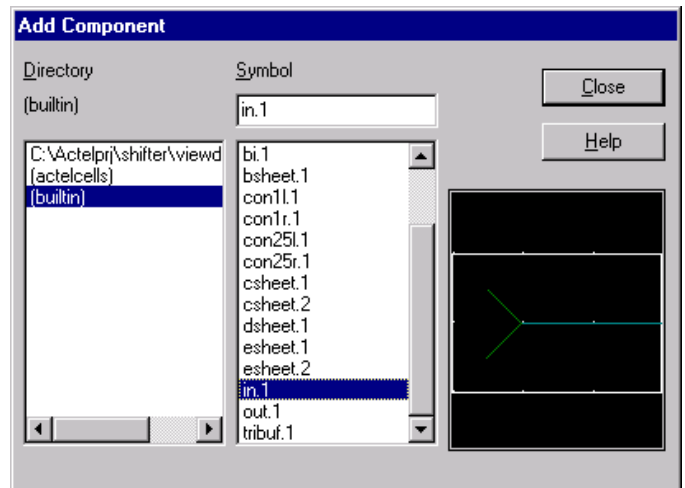

Figure 16 - adding hierarchical connectors
- b. Select builtin from the library list and select in.1 from the symbol list (Figure 16).